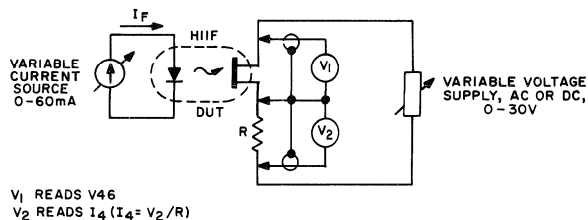

Fig. 76 - H11F parameter testing.
c). The parameters of the bilateral analog FET are of most interest at low level. Most of the parameters of interest can be read in the simple circuit in Figure 76, but some precautions are required to maintain accuracy. Kelvin contacts to the DUT are required and should insure the elimination of ground loop IR drop which can cause errors, dissimilar metal contacts or temperature gradients causing thermal voltage errors and electromagnetic pick up errors. The latter is especially important when 60Hz ac data is generated. Signal levels must be controlled to maintain bias within the linear region for accurate resistance measurements, since the maximum signal level for linear operation is a function of the DUT resistance. This effect is quantified by testing the H11F as an element of a resistive bridge and increasing the bridge signal level until distortion causes an output signal of specified amplitude.